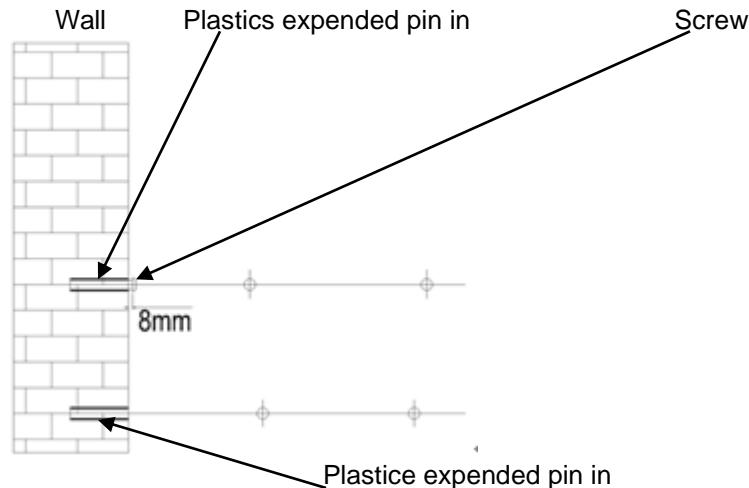

Fig. 4
- 3) Insert the plastic expanded pin into the four holes on the wall. See Fig.4
- 4) Fix two screws to the upper expanded pin. Keep the tips of the screws out for 8mm. See fig. 4.